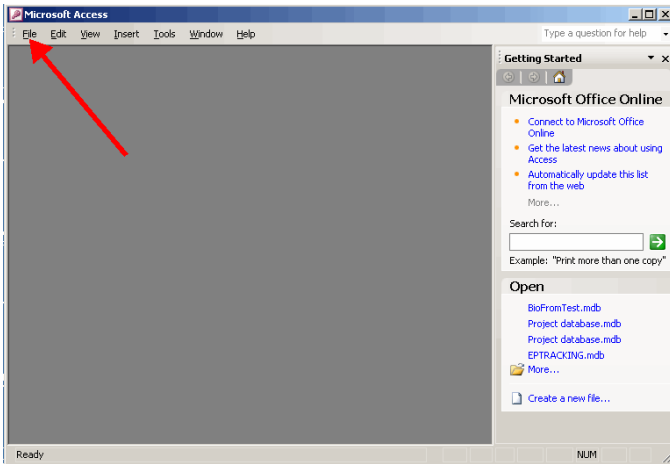

Figure 2-2a
2.2.2. Click *File > New*. (Figure 2-2a, b)